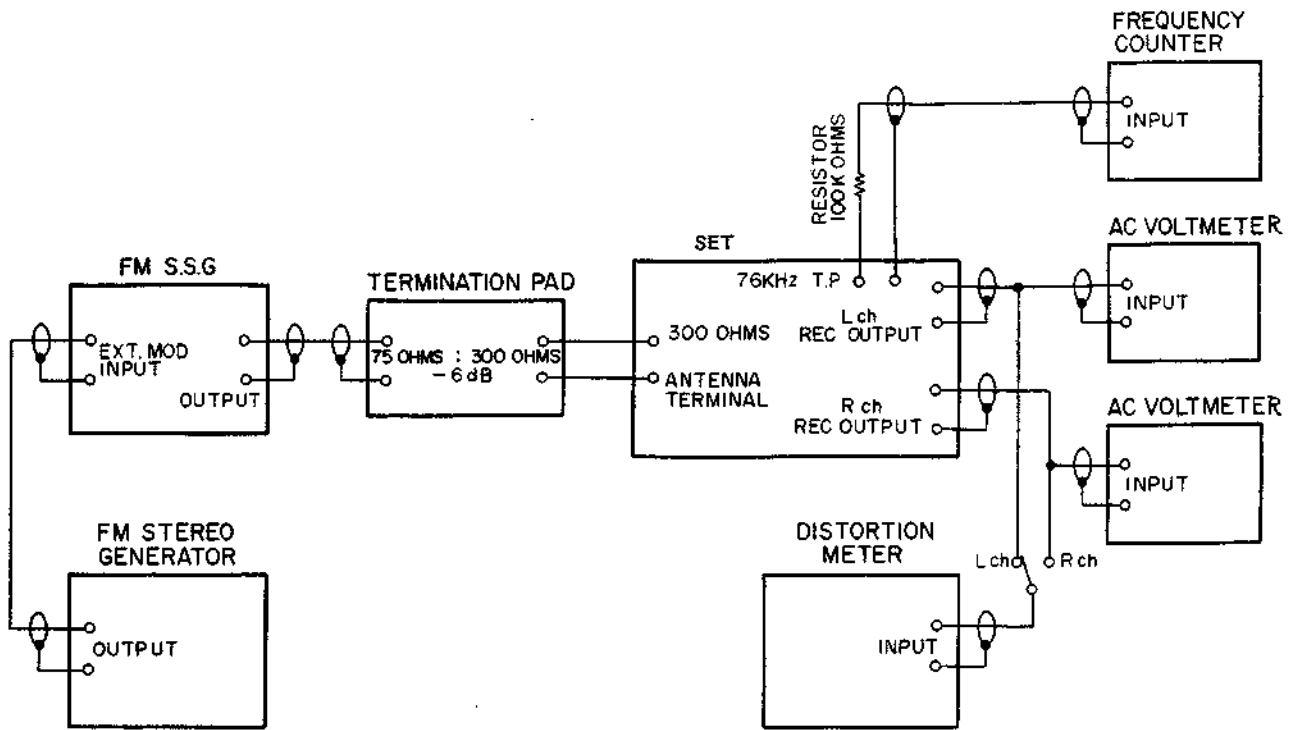

Fig. 10 Instrument Connections
2. When connecting a Frequency Counter, connect from TP via 100 kohms resistor. (Refer to Fig. 10)